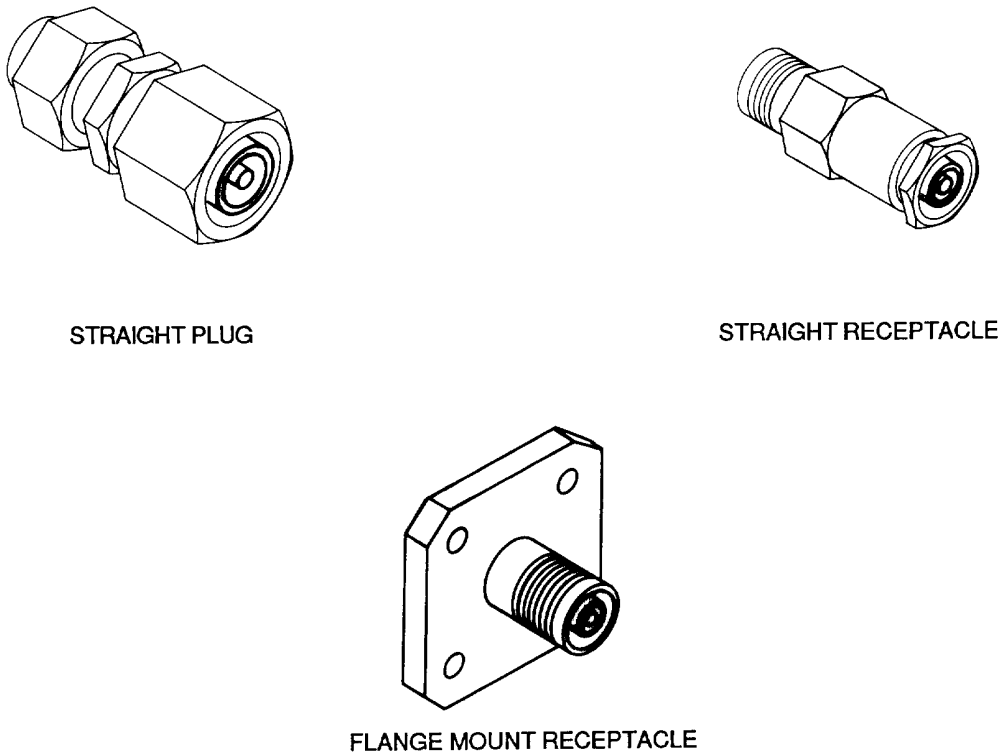

Figure 18. Typical SMA Series Connector
48. **Series SMA Connectors.** These connectors are subminiature, low voltage connectors with threaded coupling, 50 ohm impedance and an operating frequency to 12,400 MHz (Figure 18).